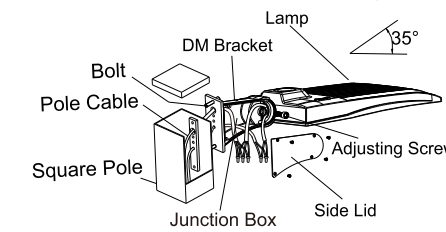

Figure 11
Step 1: Fix DM bracket to square pole with bolt, open the side lid of DM bracket, pull the wire into junction box, and connect the wire correctly. (Figure 11)
Notice: Adjustable angle is 0-35° (Figure 11).